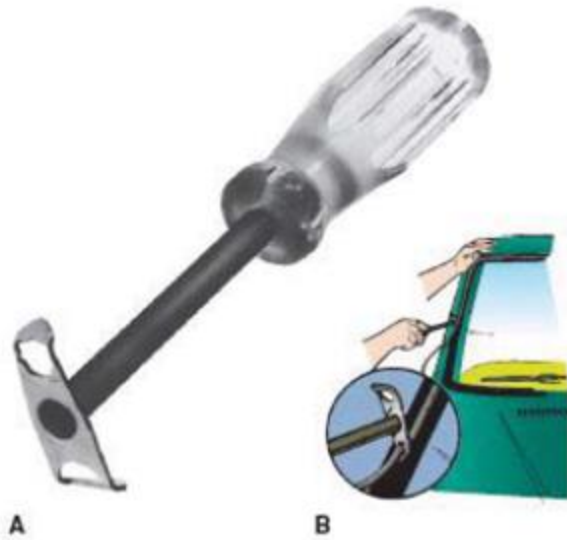

Fig 2.3. Wind shield locking strip tool
- 20 Use the wind shield locking strip tool to spreads the groove and feeds the strip into the opening of rubber grooves (see Fig 2.3).